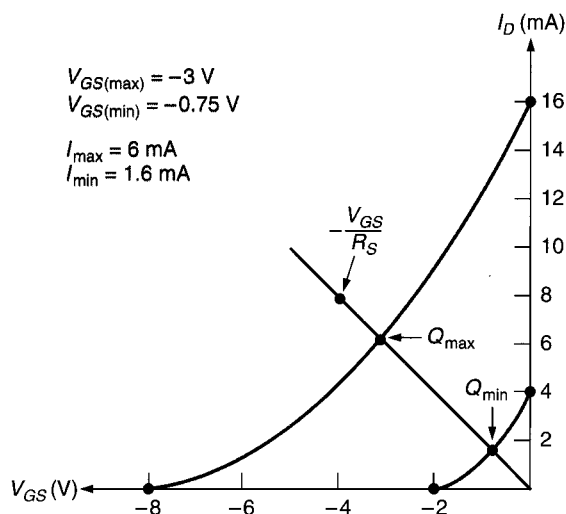

FIGURE 12.23
This point  $(-4, 8)$  is plotted on the graph, and a line is drawn from the point to the graph origin. The plot of the line is shown in Figure 12.23. Note that the points where the bias line intersects the transconductance curves are labeled  $Q_{max}$  and  $Q_{min}$ . Using the graph coordinates of these two points, we obtain the maximum and minimum values of  $V_{GS}$  and  $I_D$  shown in Figure 12.23.
**Solution:** We have already determined the limits of  $V_{GS}$  and  $I_D$  (Figure 12.23) as